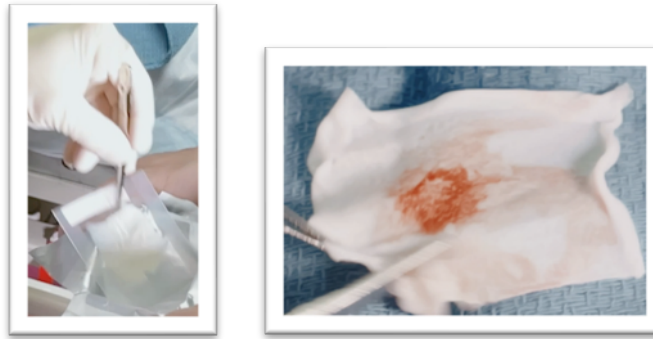

Figure 2. Removal of DermGEN™ from package (*left*) and showing dermal side identified by absorbed blood patch (*right*)
2. Peel back the outer package (Non-sterile) and remove DermGEN™ from the inner pouch using sterile gloves/forceps and place directly onto the wound. DermGEN™ needs to be applied to the wound site with the **dermal side** (blood absorbing side) in contact with the bleeding wound (**see note above). (Figure 2)